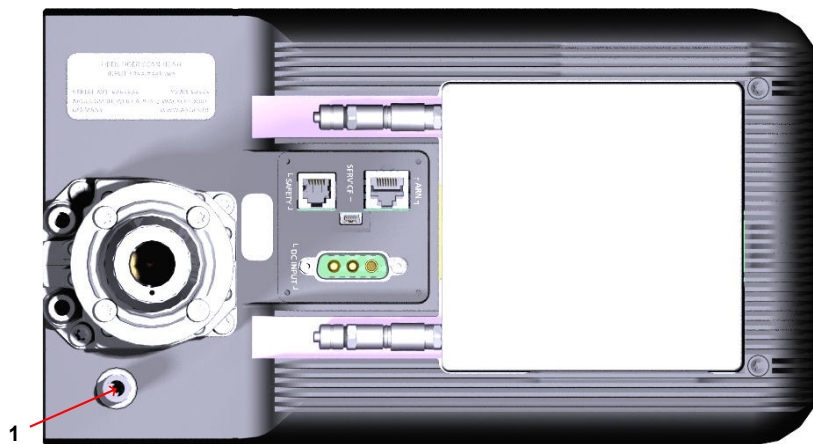

Figure 4.10.: Positioning of purge gas inlet (1) at the top
1. Press the hose tip of the purge gas supply line beyond the resistance into the quick connector 1; see figure 4.10 on page 24.